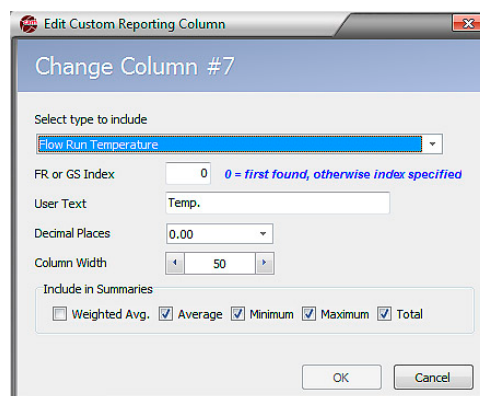

Figure 4.14—Change Column dialog
2. Make desired changes on the *Change Column* dialog (Figure 4.14).